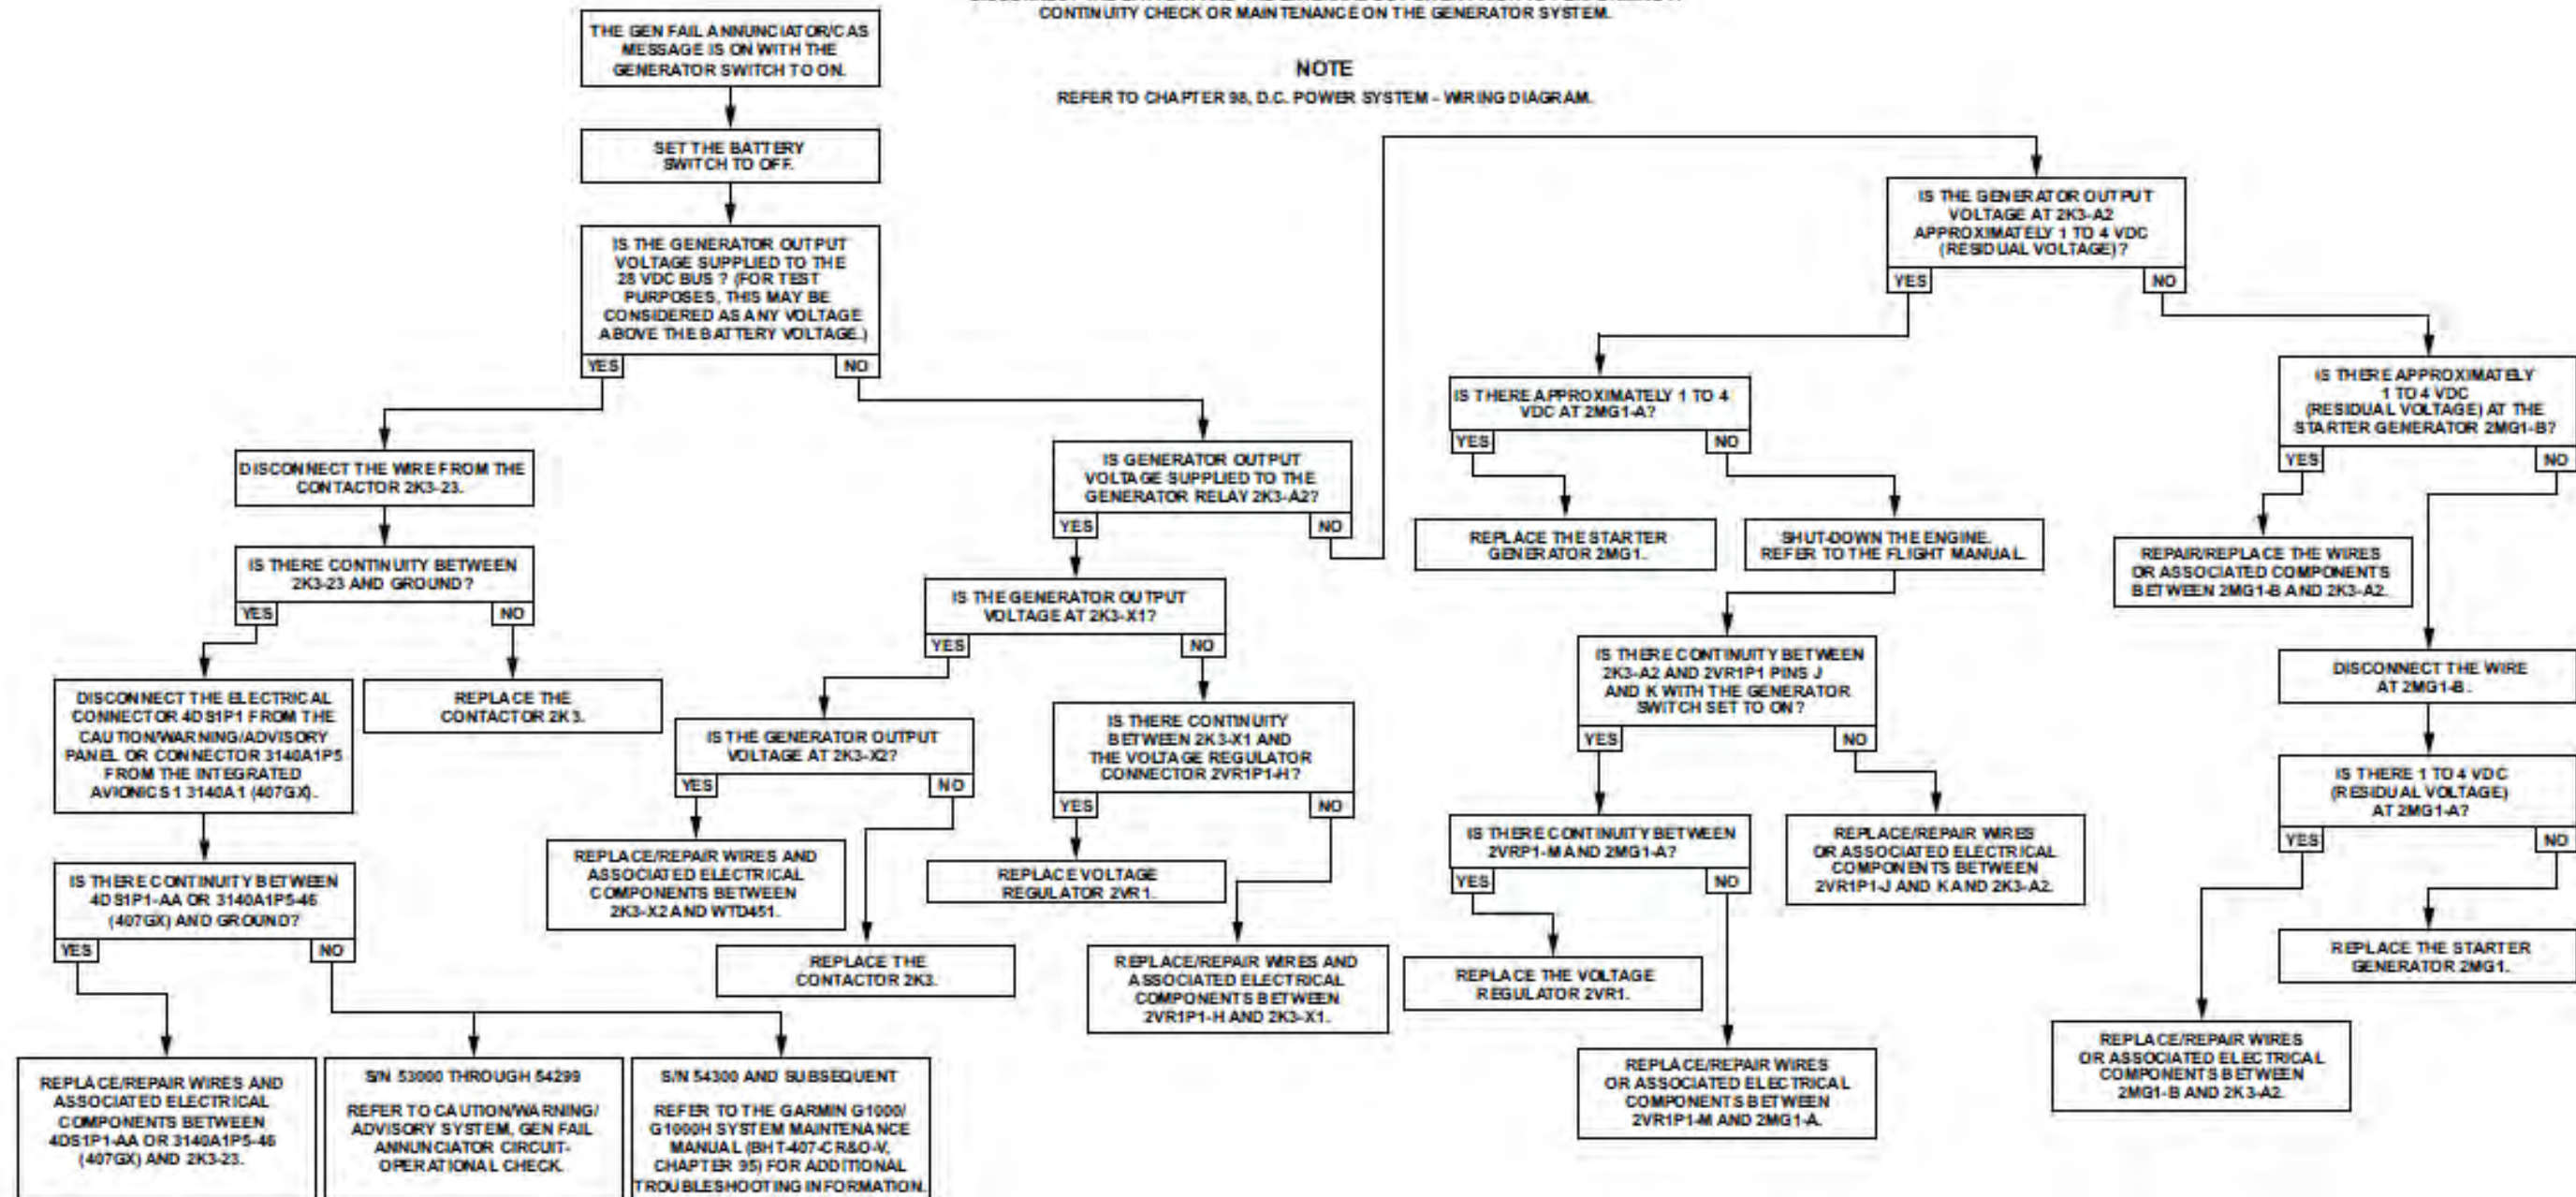

Figure 96-35: Generator System - Trouble No. 1
- If the GEN FAIL annunciator stays on, refer to Trouble No. 1 (Figure 96-35).